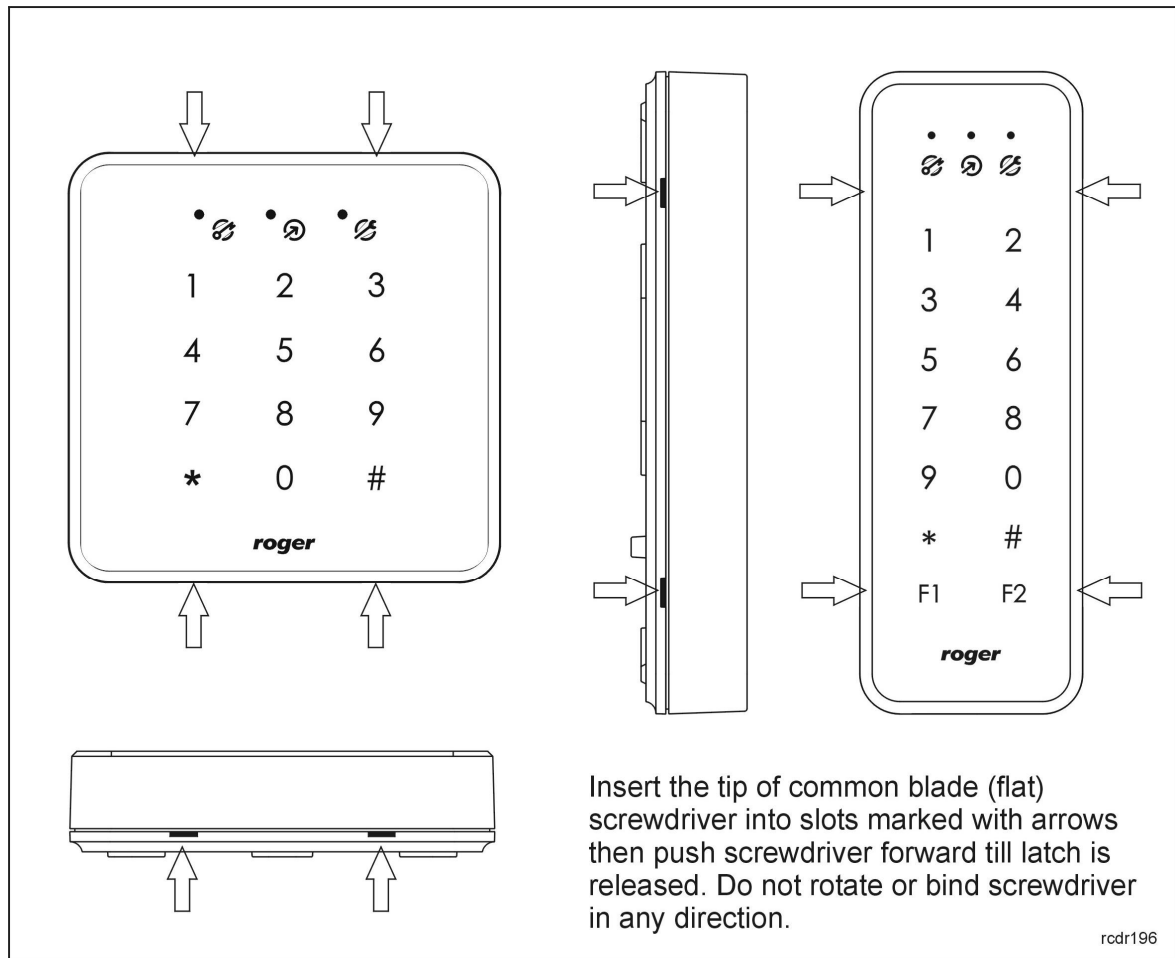

Fig. 7 Location of latches
- The reader enclosure consists of a front and rear panel. Before installation it is necessary to separate them by means of ordinary flat screwdriver according to method explained in Fig. 7